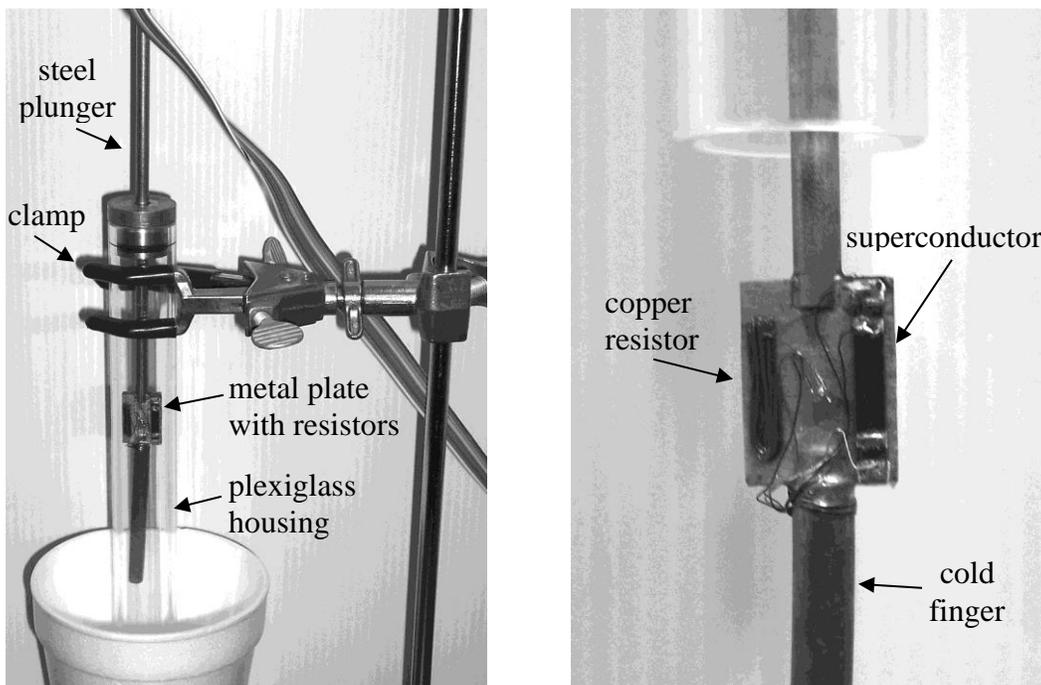

Figure 1. The probe (left) with a close-up of the Cu resistor and superconductor (right).
- Clamp the probe system to a ring stand, as shown in figure 1, with the end of the plexiglass housing a centimeter or two above the bottom of the high-tech liquid nitrogen container (the Styrofoam cup).